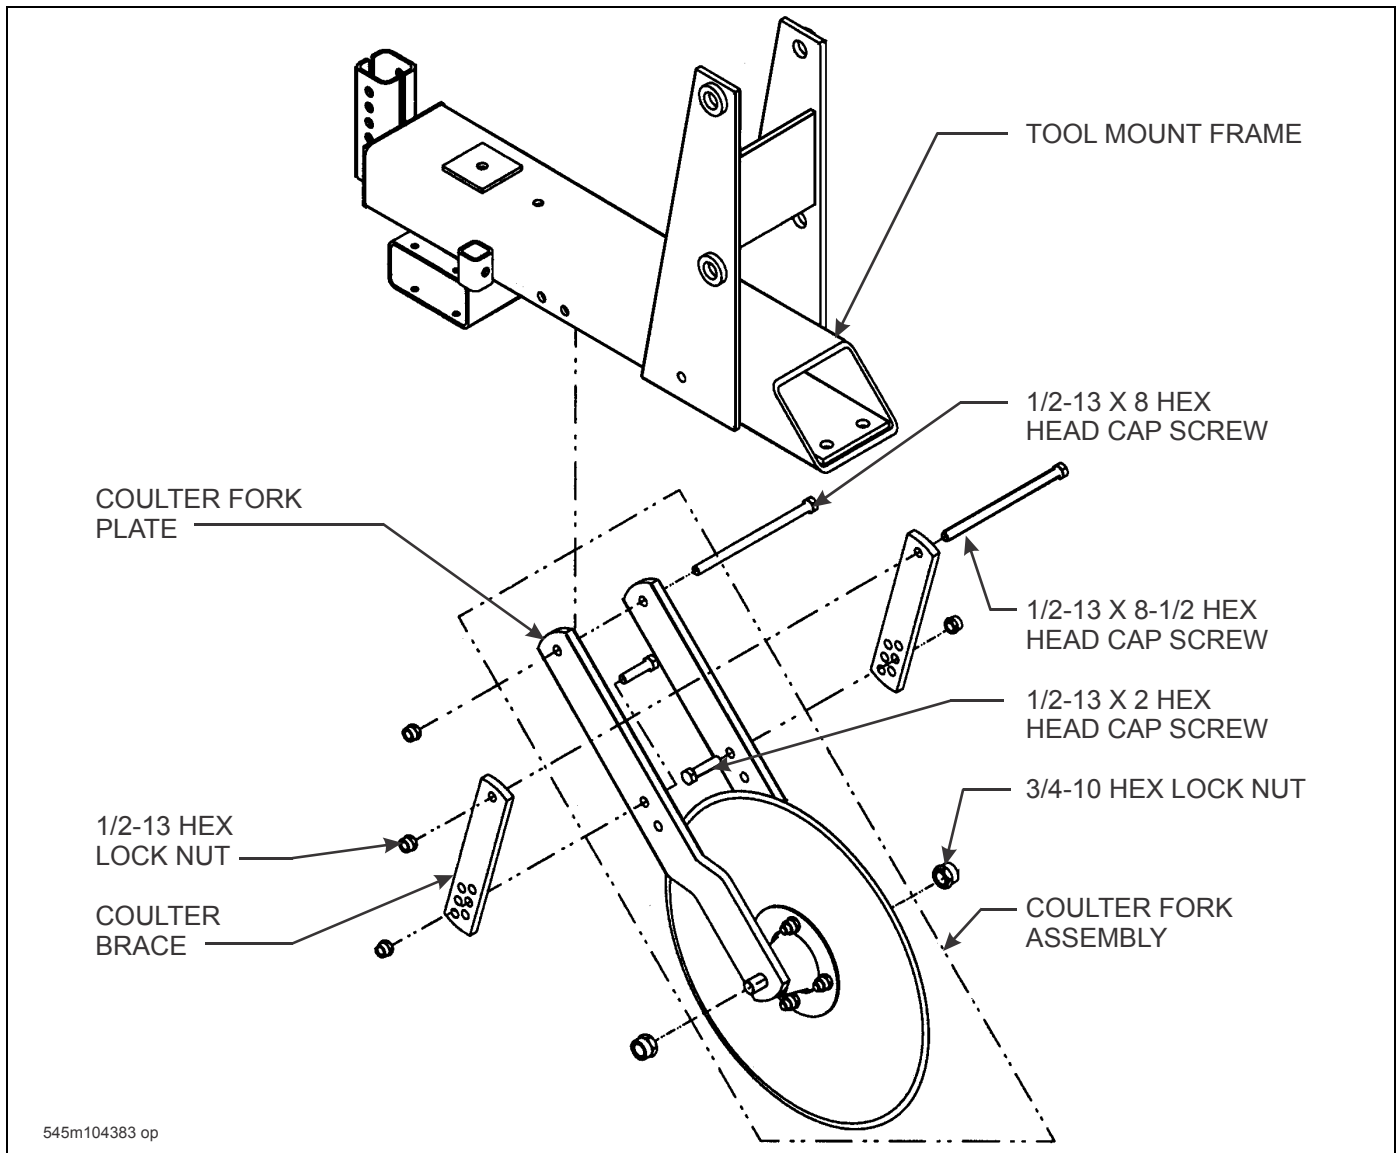

Figure 3-5: Coultter Blade Installation
See Figure 3-5 for parts names. When assembly is done, tighten all fastening hardware to the torques listed in Table 2-1 and Table 2-2. Tighten u-bolts evenly to show an even amount of thread on both legs of the u-bolt.
1. Loosely assemble a coultter brace to the outer sides of each coultter fork with 1/2-13 X 2 hex head cap screws and hex lock nuts (Figure 3-5 shows proper mounting position.)
2. Loosely assemble each coultter fork assembly to a tool frame with a 1/2-13 X 8 hex head cap screw inserted through the coultter fork side, the tool frame, and the other coultter fork side, secured with a locking nut (Figure 3-5 shows proper mounting position.)